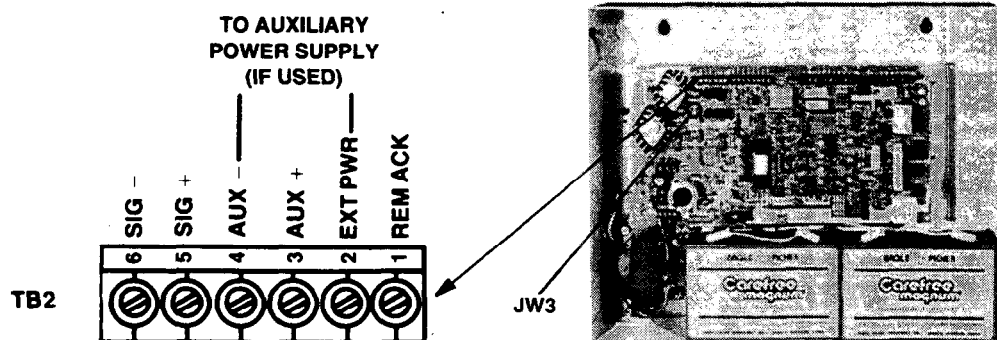

FIGURE 17
5. If using a 24VDC auxiliary power supply, cut jumper JW3 and connect the supply as shown in Figure 17. USE OF EXTERNAL POWER MAY VOID POWER LISTING ON THAT CIRCUIT.